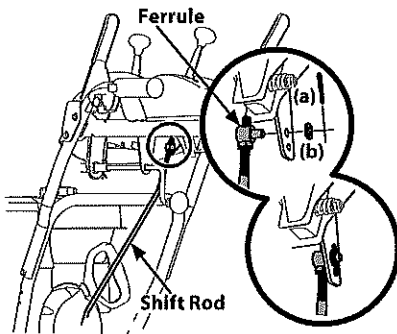

Figure 2-25
8. Remove cotter pin (a) and washer (b) from ferrule on end of shift rod. See Figure 2-25 inset.
10. Insert ferrule into top hole of shift lever and secure with cotter pin (a) and washer (b) removed in Step 8. See Figure 2-25. Ferrule may need to be adjusted up or down.